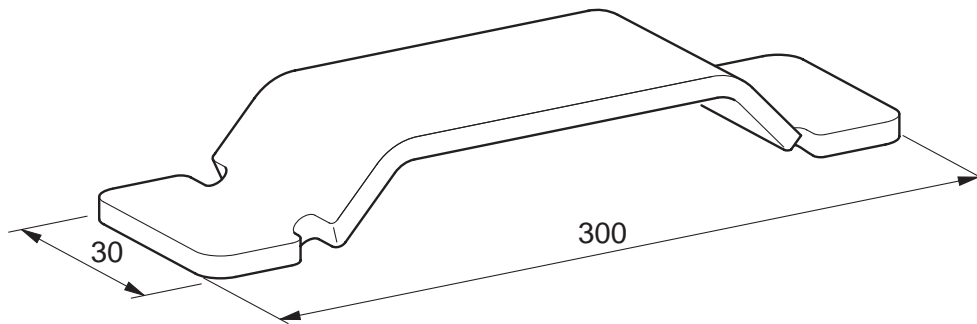

Fig. 6
- 13 The design for a door handle is shown in Fig. 6.